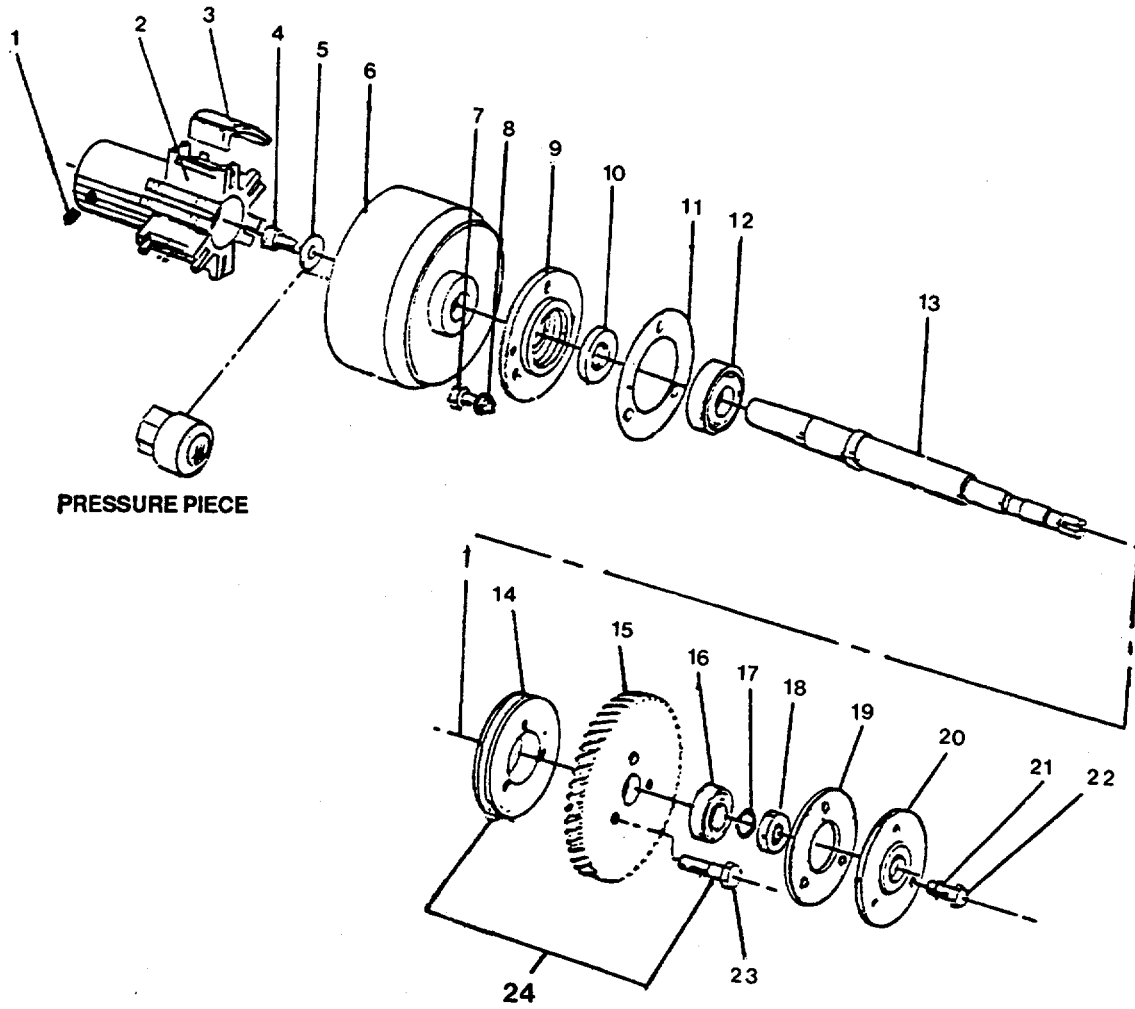

FIGURE 4-4. Horizontal Gear Assembly.
**4-15. Repair Horizontal Gear Assembly. (Figure 4-4)**